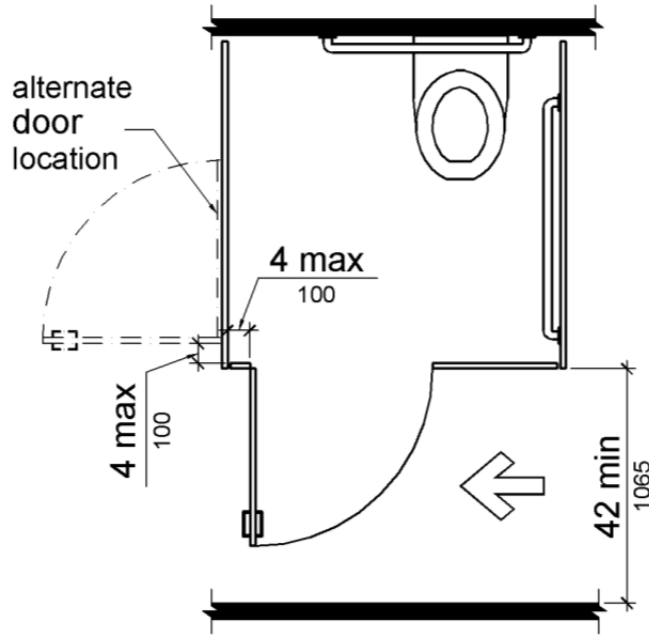

Figure 604.8.1.2
- a) Required clearance: 60" wide x 56" deep for wall mounted toilets, 60" wide x 59" deep for floor mounted toilets. Toilet opposite door, door within 4" of adjacent wall/partition. (see attached 2010 ADA Figure 604.8.1.2)